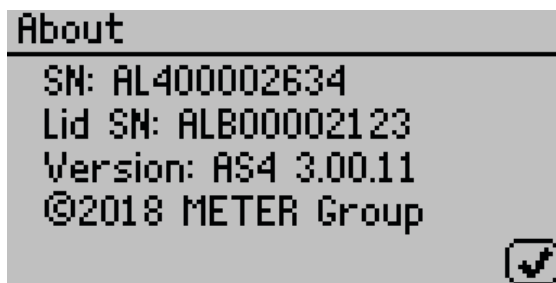

Figure 44 About screen
- **About.** Select to view instrument information including the serial number and firmware code version of the instrument (Figure 44).